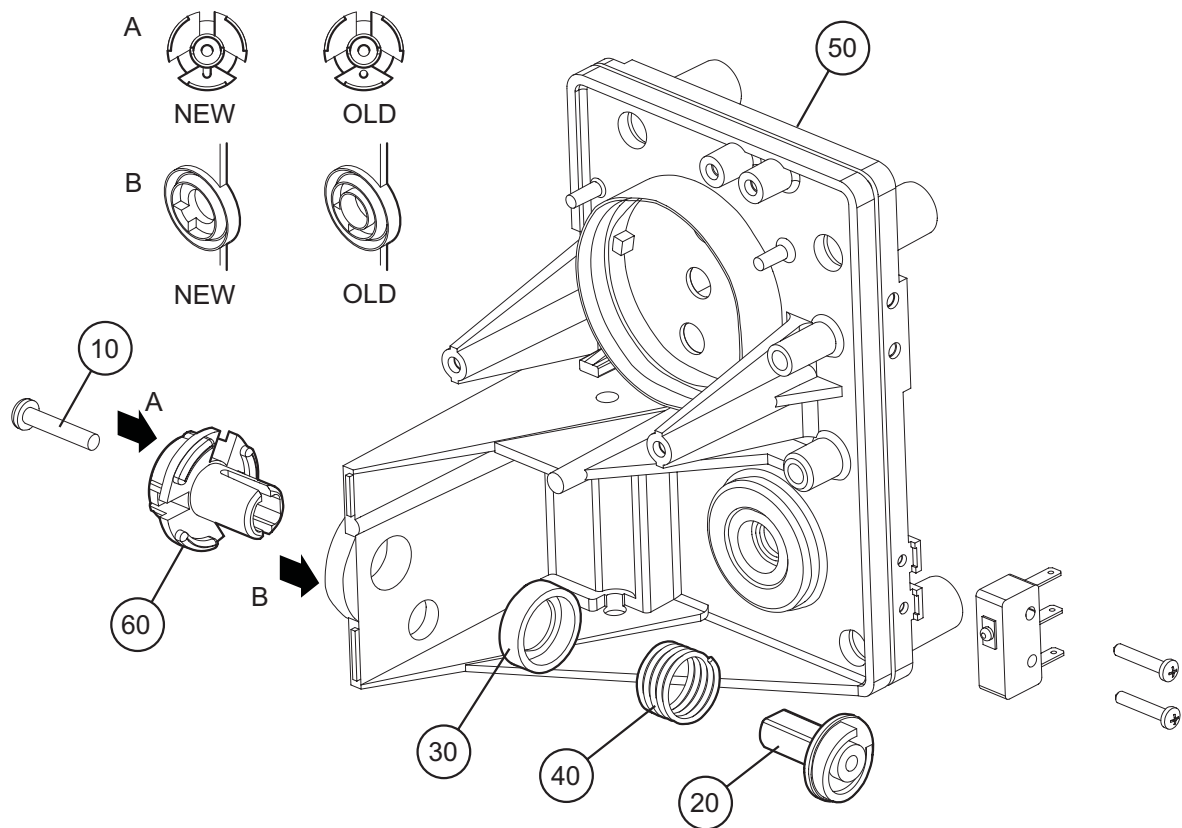

Figure 20 - Control Knob Cam and Arbour
- 36.3 Release the control adjustment screw on the control knob arbour (Fig 20, Item 10).
- 36.4 Carefully remove the arbour, cam, spring cup and spring (Fig 20, Items 20, 30 and 40).